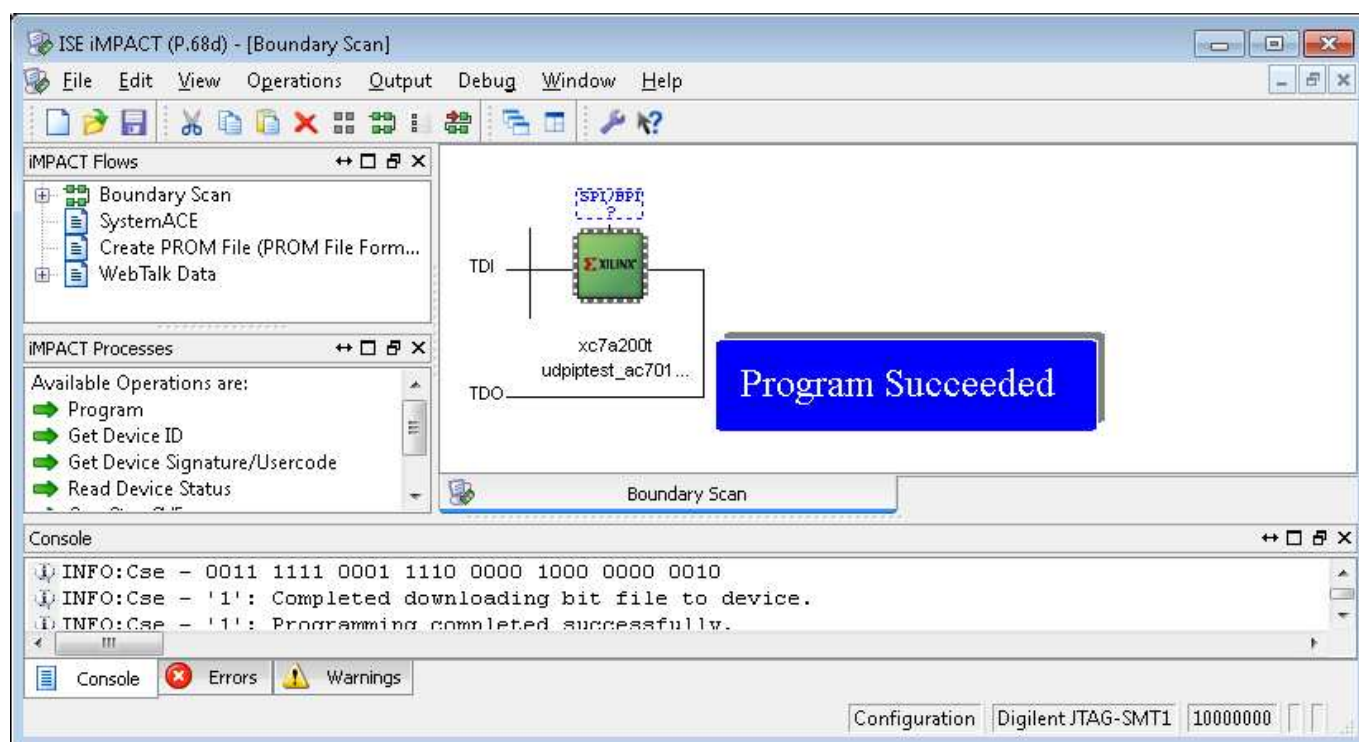

Figure 4-1 Programmer Environment
- Open iMPACT and download “udpiptest_ac701.bit” to FPGA development board, as shown in Figure 4-1.